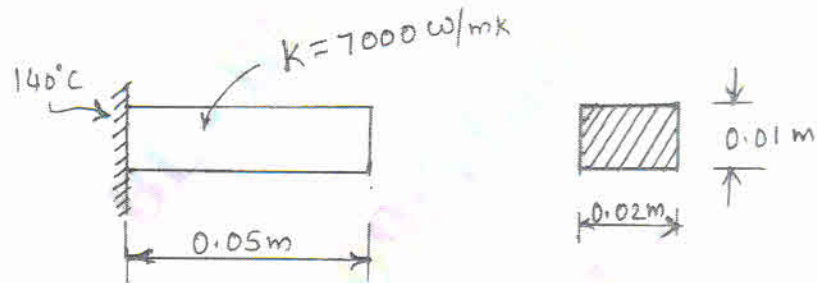

Fig.Q.7(b)
b. Determine the temperature distribution in the rectangular fin as shown in Fig.Q.7(b). Assume steady state and only conduction process. Take heat generated inside the fin as 400 W/m^2 . (12 Marks)